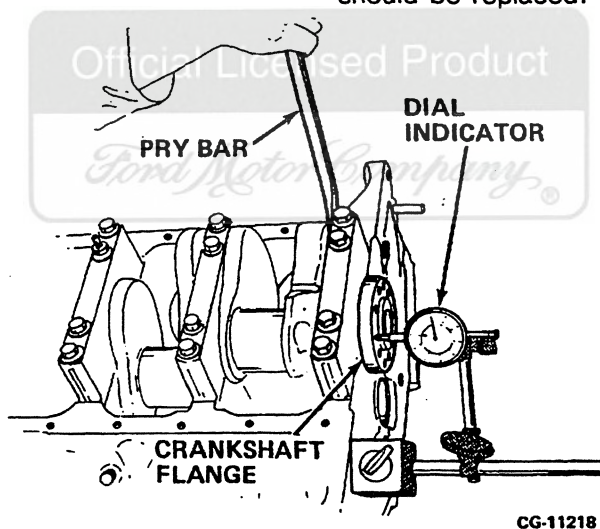

Figure 6.36. Checking Crankshaft End Play
7. The thrust bearing (No. 3 Main Bearing) provides the initial location of the crankshaft in relation to the crankcase. Check crankshaft end play using a dial indicator as follows: (Refer to **Figure 6.36.**)